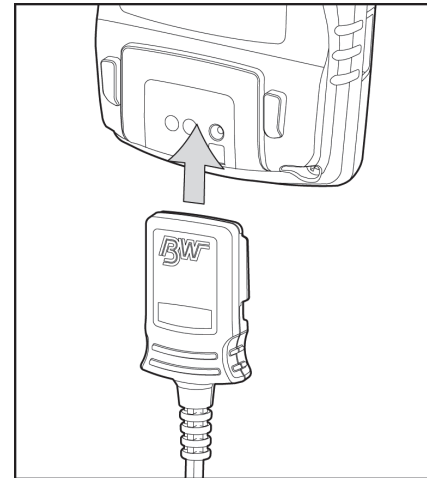

Figure 9. Connecting the Detector and IR Link.
3. Insert the IR Link into the IR interface on the back of the detector. Refer to Figure 9.